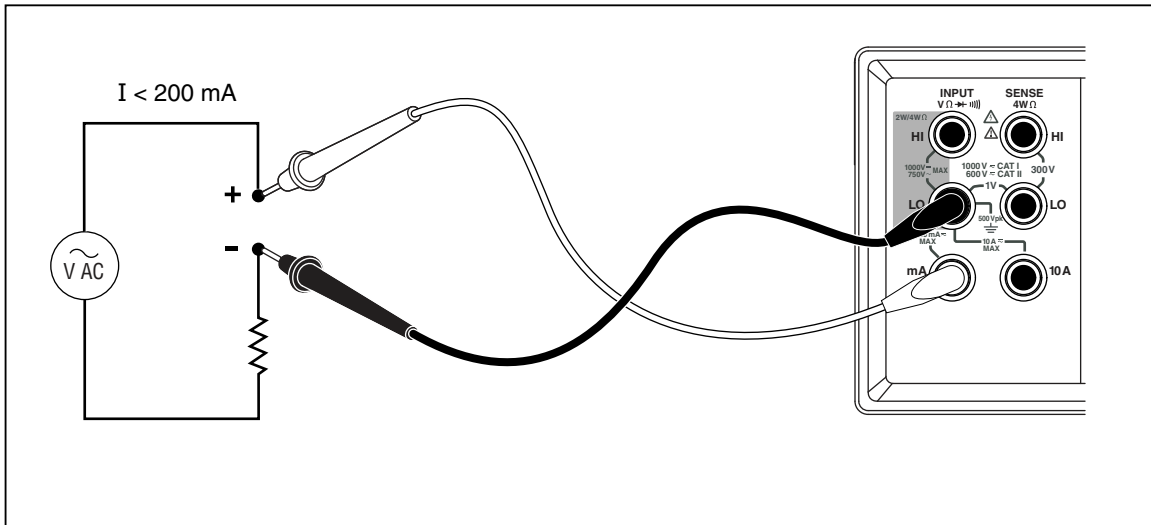

Figure 3-8. Current Measurement $<200 \text{ mA}$
4. If the measurement is expected to be below 200 mA, connect the test leads to the 200 mA and LO terminals only and remove any leads in the 10 A terminal. See Figure 3-8.